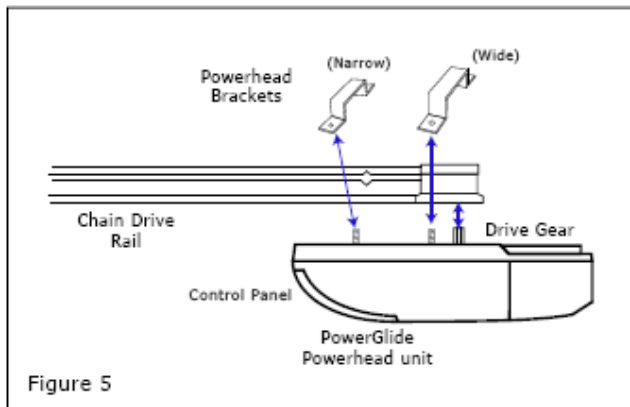

Figure 5
STEP 5 (fig. 5) Place the chain drive rail and powerhead assembly centrally on the garage floor, with the powerhead furthest away from the door. Lift the front of the drive rail up to the front bracket assembly that has been mounted above the garage door. Insert the main pivot pin through the assembly and secure it with the split pin supplied.